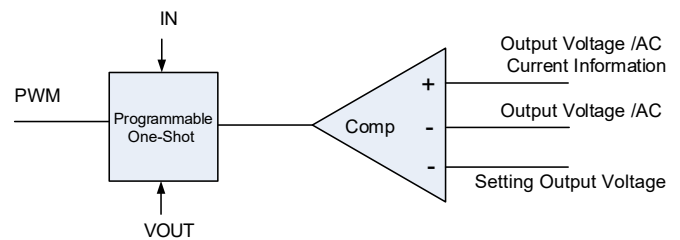

Figure 4. Simplified Control Schematic
The simplified control schematic is shown in Figure 4. The high-side switch on-time is determined solely by a one-shot whose pulse width is inversely proportional to input voltage (IN). The one-shot is triggered when the internal setting output voltage is higher than the combined information of output voltage and the AC current information of inductor and load line signal, which is processed and obtained through the sensed low-side MOSFET current once it turns-on. The added AC current information can help the stability of constant-on time control even with pure ceramic output capacitors, which have very low ESR. The AC current information has no DC offset, which does not cause offset with output load change, which is fundamentally different from other V2 constant-on time control schemes.